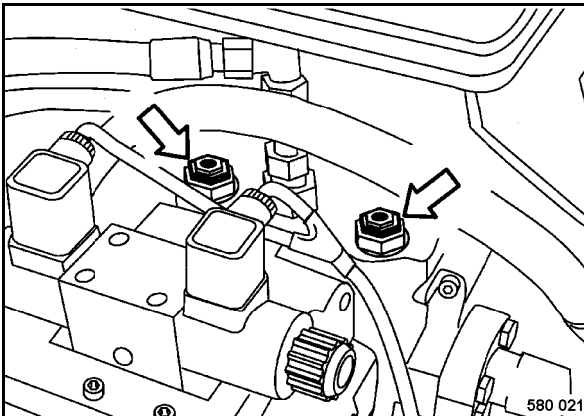

Fig. 108
- Slacken the middle hexagon on both valves (Fig. 108) for approx. 2 to 3 turns.
- Fasten the middle hexagon on both valves (Fig. 108) again for approx. 2 to 3 turns.